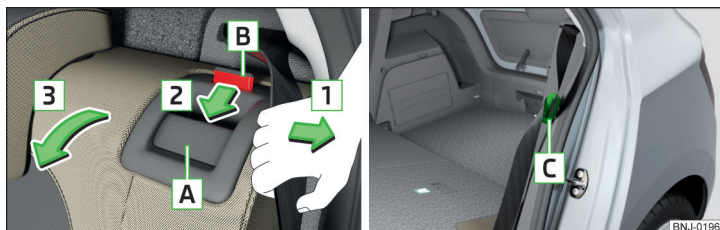

Fig. 56 Fold seat backrest forwards / standby position of the seat belt
- Pull the outer seat belt to the side panel in the direction of arrow **1** » Fig. 56.
The belt tongue of the outer seat belts **C** can be inserted into the side panel. Ready position » Fig. 56.